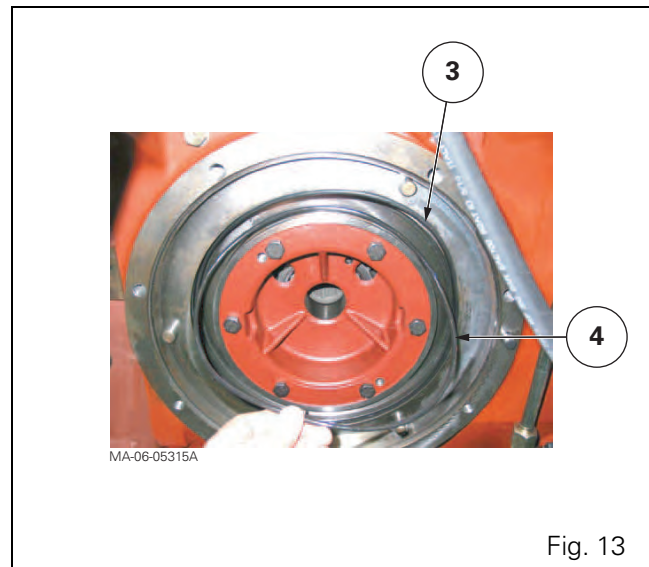

Fig. 13
7. Before the final refitting of the piston (2), test fit the piston in the centre housing, temporarily excluding the "O" rings (3) (4). This temporary fitting allows you to check that the piston can move freely in its bore and on its stop pins. During fitting, any friction points must be eliminated and problem parts must be identified.
9. Lubricate the new "O" rings (3) (4) with clean transmission oil. Fit them into their respective grooves (Fig. 13) (centre housing and differential support).
11. Fit the piston into the centre housing by aligning its pin housings with the stop pins (6).